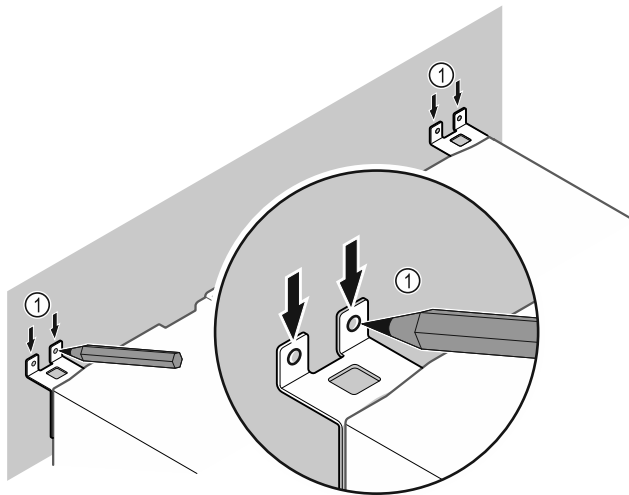

Fig. 13
- ▶ Make markings on the wall Fig. 13 (1).